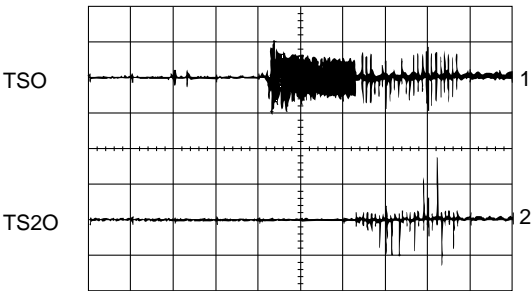

Figure 10-4
- 2-2: Tracking Servo Gain (Fig. 10-4)